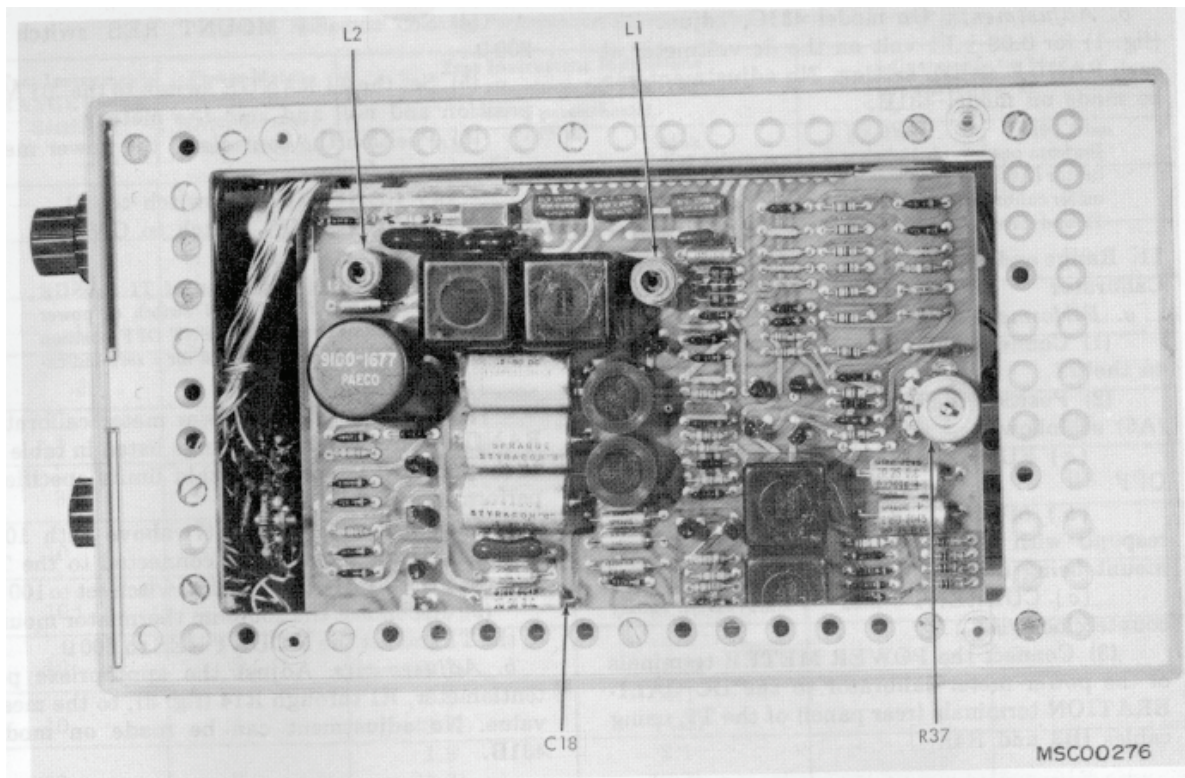

Figure 1. Right interior view.
- (6) Connect the 100 ohm thermistor mount to the TI.
- (7) Set the TI **MOUNT RES** switch to **100Ω**.
- (8) Repeat (2) through (5) above.
b. Adjustments. Adjust L1 (fig. 1) for null on the TI.
- (1) Connect multimeter to the TI **DVM** output (rear panel).
- (2) Position the TI **RANGE** switch to the **.01 MW** position and adjust the zero controls for 0.00 volt dc on the multimeter.
(3) Turn the TI **RANGE** switch to **.03-**, **.1-**, **.3-**, **1-**, **3-**, and **10-MW** positions while observing multimeter. If the multimeter does not indicate between -0.01 and +0.01 volts in each position of the **RANGE** switch, perform **b** below.
b. Adjustments. Adjust R37 (fig. 1) for 0.00 ± 0.01 volts on the multimeter at each **RANGE** switch setting.
- (1) Connect frequency counter to the positive end of C18 (fig. 1) and ground.
- (2) Connect the 200-ohm thermistor mount to the TI and terminate the mount with a 50-ohm termination.
- (3) Set the TI **MOUNT RES** switch to **200Ω**.
- (4) If the frequency counter does not indicate between 9.990 and 10.010 kHz, perform **b** below.
- (5) Disconnect the 200 ohm thermistor mount from the TI.
- (6) Connect the 100 ohm thermistor mount to the TI and turn the **MOUNT RES** switch to **100Ω**.
- (7) The frequency counter will indicate between 9.950 and 10.050 kHz.
b. Adjustments. Adjust L2 (fig. 1) for 10.000 kHz.